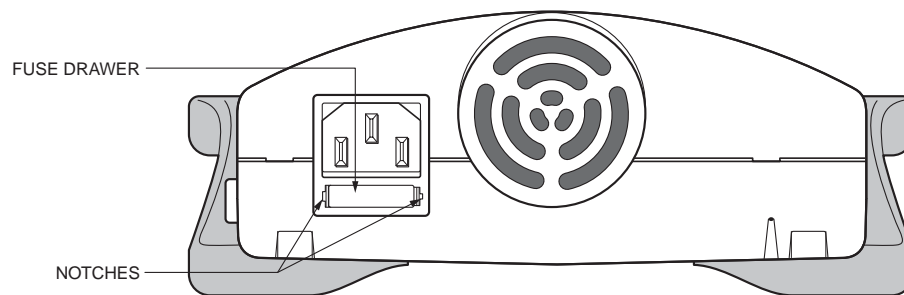

Fig. 5. Rear View Showing Fuse Drawer with Notches.
2. Insert a flat blade screwdriver into the notches of the power entry module's fuse holder to release it. See Figure 5.